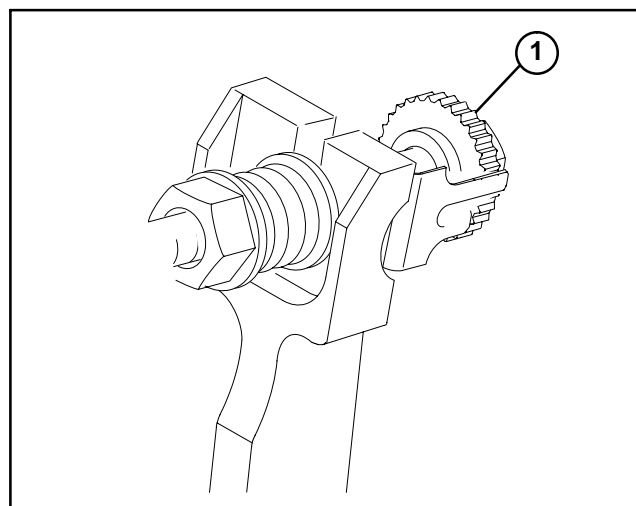

Figure 32
1. Loosen reel to bedknife contact by turning the bedknife adjusting knob (Fig. 32) counter-clockwise until no contact exists.